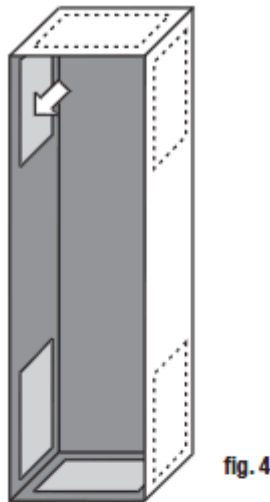

fig. 4
- Install the 3M™ Vibration Control Tape to the inside of the top and side walls of the housing (fig.4).